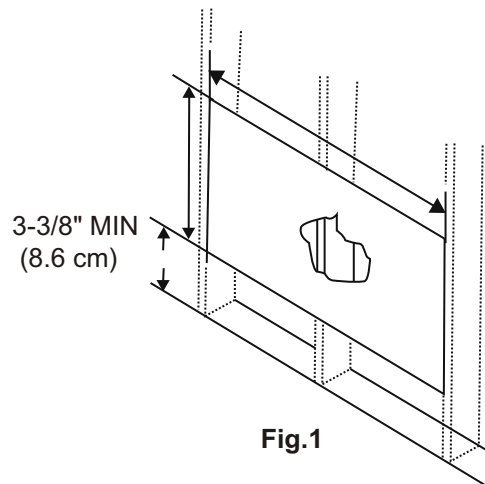
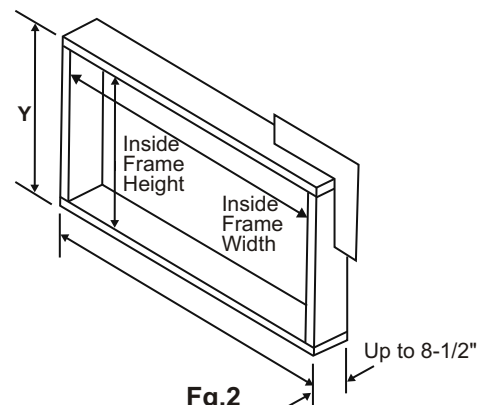

Fig. 1
Fig. 2
3. Measure between inside edges of every other stud as shown in Fig. 1.
Carefully measure and cut an opening with the following dimensions depending on your model. See Fig. 1 and Fig. 2.